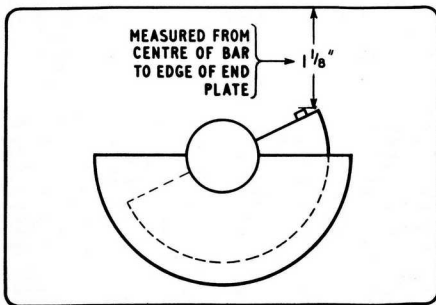

FIGURE 7
- (i) Set the KILOCYCLES scale against the mechanical end stop at the 1,000 kc/s end and check that the ganged capacitor is set as shown in Figure 7.